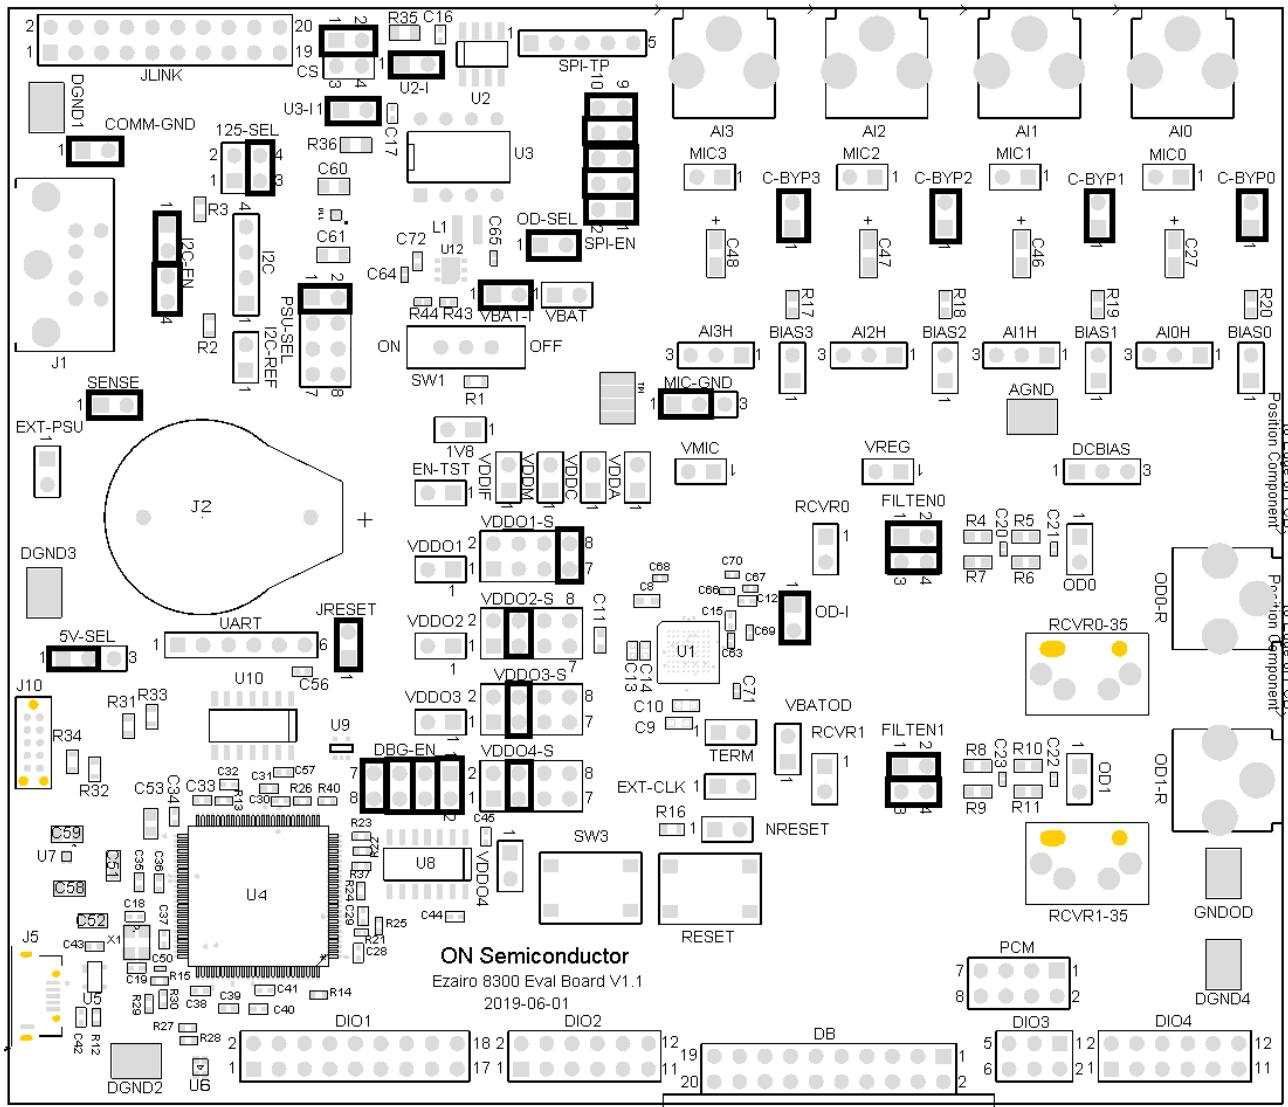

Figure 8. Ezairo 8300 Evaluation and Development Board Diagram
1. Check the jumper positions. The figure "Ezairo 8300 Evaluation and Development Board Diagram" \(Figure 8\), below, depicts the jumper positions necessary to power the Evaluation and Development Board from the USB port and connect the Board to the Windows computer. The black rectangles in the diagram indicate the required jumper positions.